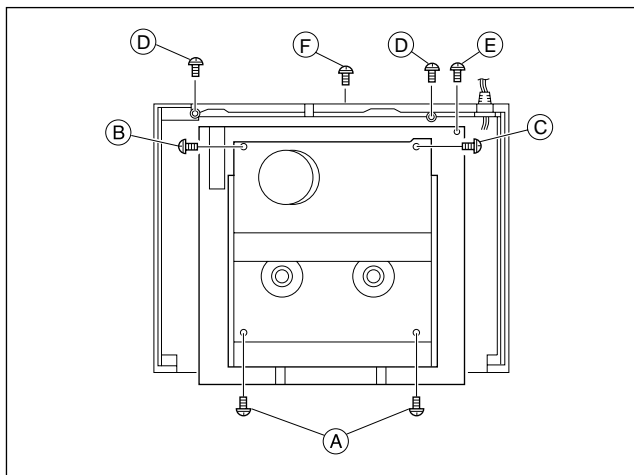

Fig. 1-4-1
- (3) Take out 2 screws (A), 1 screw (B) and 1 screw (C) as shown in Fig. 1-4-1.
- (4) Remove the flat wires from CN3011, CN901 and CN902 on the Main board assembly.
- (5) Take out 2 screws (D), 1 screw (E) and 1 screw (F) as shown in Fig. 1-4-1.